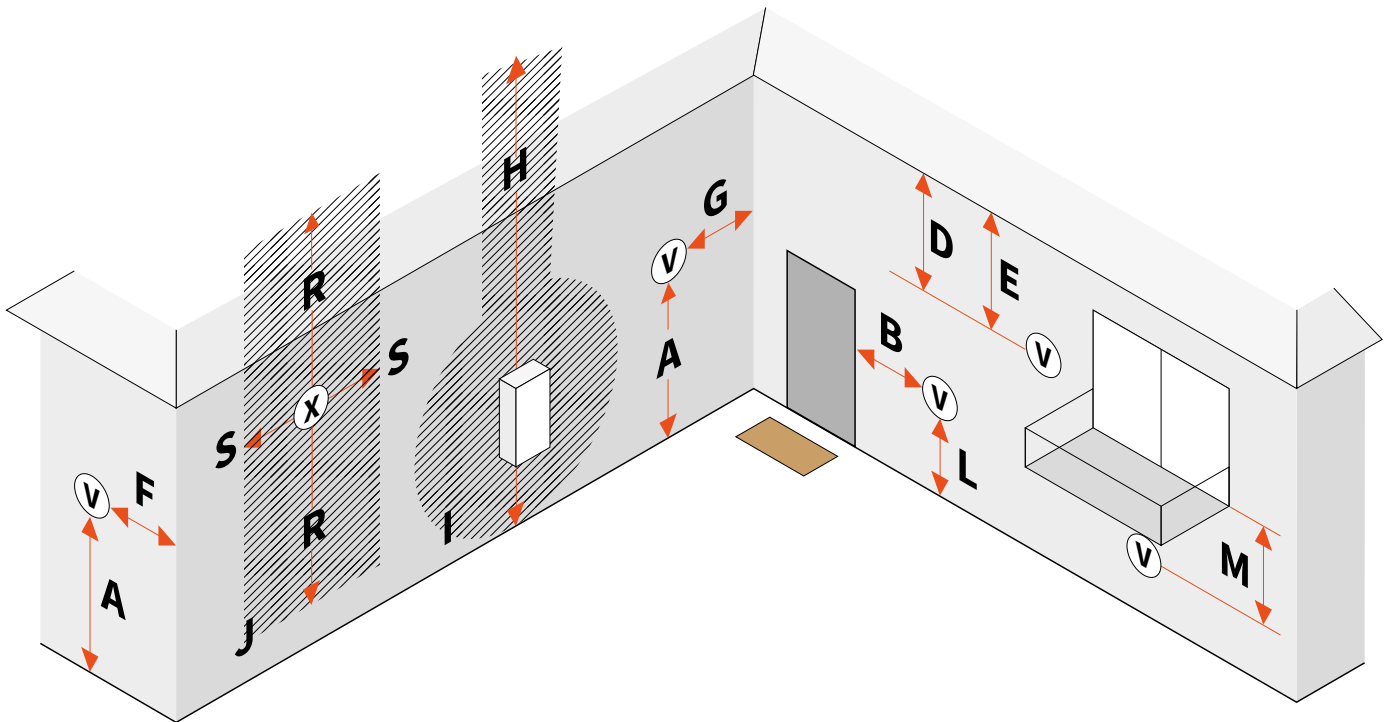

Figure 11.3 - horizontal vent termination I
- Remove the safety screen(s) from their holders. The safety screens are held by magnets (**Figure 11.3**).